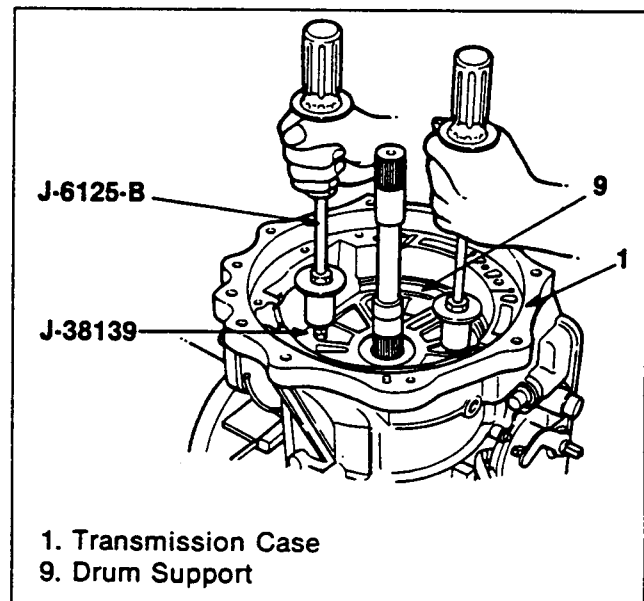

Figure 280. Drum Support Installation (2)
4. Put the drum support and the input shaft together, use the shaft as a guide along with the drum support and insert using a slide hammer and adapter (special tool) vertically into the case (figure 280).